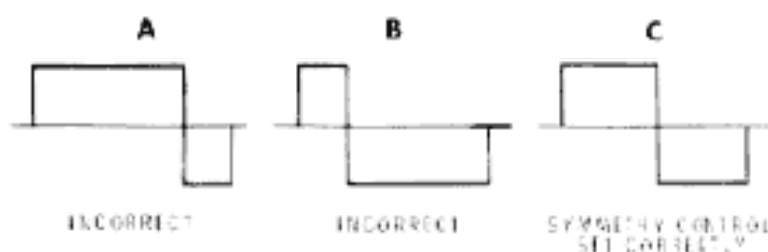

Figure 3
- () Rotate the SYMMETRY control until the positive and negative halves of the square waveform are equal, as shown in part C of Figure 3.